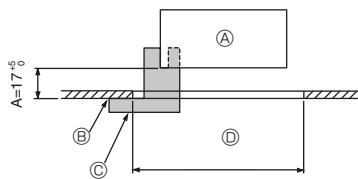
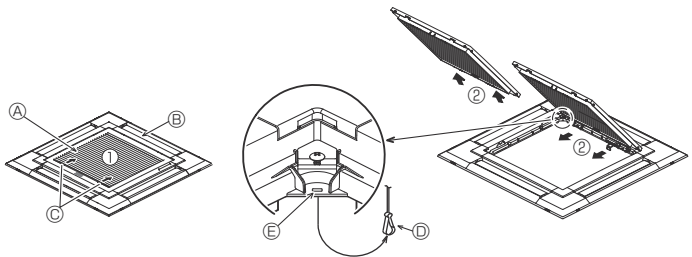
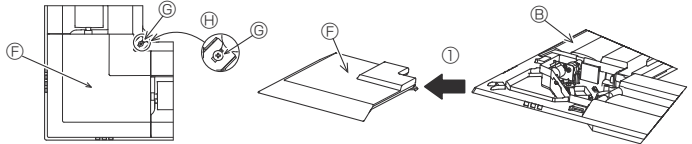

Fig. 9-2
Fig. 9-3
Fig. 9-4
①	Grille	1	950 × 950 (mm)
②	Installation gauge	1	(Divided into 4 parts)
③	Screw (4 × 16)	1	For PLP-6EAE, PLP-6EALME2
④	i-see Sensor corner panel	1	For PLP-6EAE, PLP-6EALME2
⑤	Wireless remote controller	1	For PLP-6EALME2, PLP-6EALME2
⑥	Remote controller holder	1	Included when equipped with the wireless remote controller. *
⑦	LR6 AA batteries	2	Included when equipped with the wireless remote controller. *
⑧	3.5 × 16 tapping screws	2	Included when equipped with the wireless remote controller. *
9.2. Preparing to attach the grille (Fig. 9-2)
- With the gauge ② supplied with this kit, adjust and check the positioning of the main unit relative to the ceiling surface. If the main unit is not properly positioned relative to the ceiling surface, it may allow air leaks or cause condensation to collect.
- ① Main unit
- ② Ceiling surface
- ③ Installation gauge ② (inserted into the main unit)
- ④ Ceiling opening dimensions
9.2.1. Removing the intake grille (Fig. 9-3)
- Slide the levers in the direction indicated by the arrows ① to open the intake grille.
- With the intake grille in the "open" position, remove the hinge of the intake grille from the grille as indicated by the arrows ②.
9.2.2. Removing the corner panel (Fig. 9-4)
- Loose the 4 screws on the corner. Slide the corner panel in the direction of the arrow ① in the figure and remove the corner panel.
[Fig. 9-3] [Fig. 9-4]